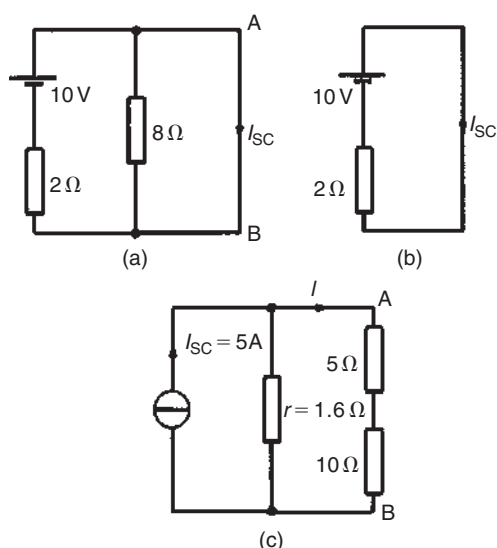

Figure 13.55
- (i) The branch containing the 10Ω resistance is short-circuited as shown in Fig. 13.55(a)
- (ii) Fig. 13.55(b) is equivalent to Fig. 13.55(a).
- (iii) If the 10 V source of e.m.f. is removed from Fig. 13.55(a) the resistance 'looking-in' at a break made between A and B is given by:
- (iv) From the Norton equivalent network shown in Fig. 13.55(c) the current in the 10Ω resistance,